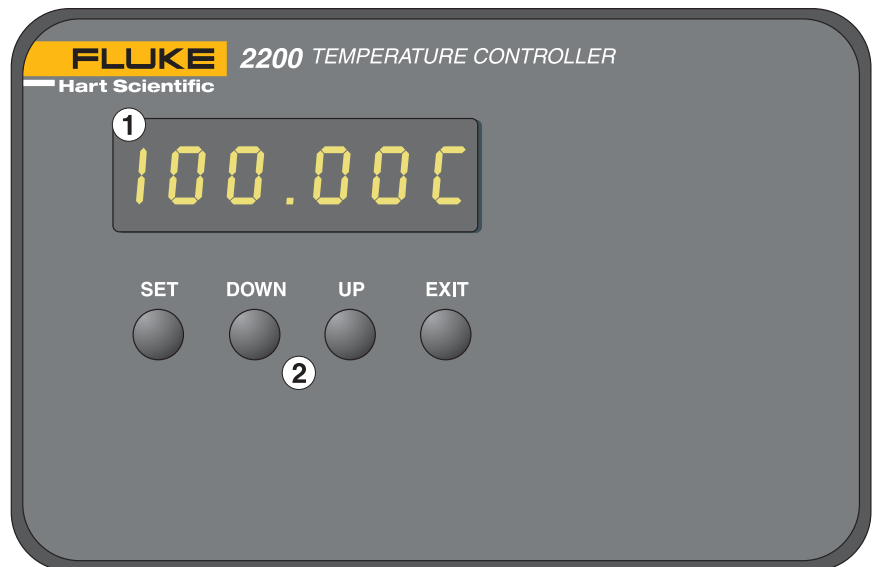

Figure 3 Front Panel
The following controls and indicators are present: (1) the digital display, (2) the control buttons. (see Figure 3)
(1) The digital display of the temperature controller displays the set and actual temperatures and various controller functions, settings, and constants. The display shows temperatures in values according to the selected scale °C or °F.
(2) The control buttons (SET, DOWN, UP, and EXIT) are used to set the temperature set-point, access and set other operating parameters, and access and set calibration parameters.